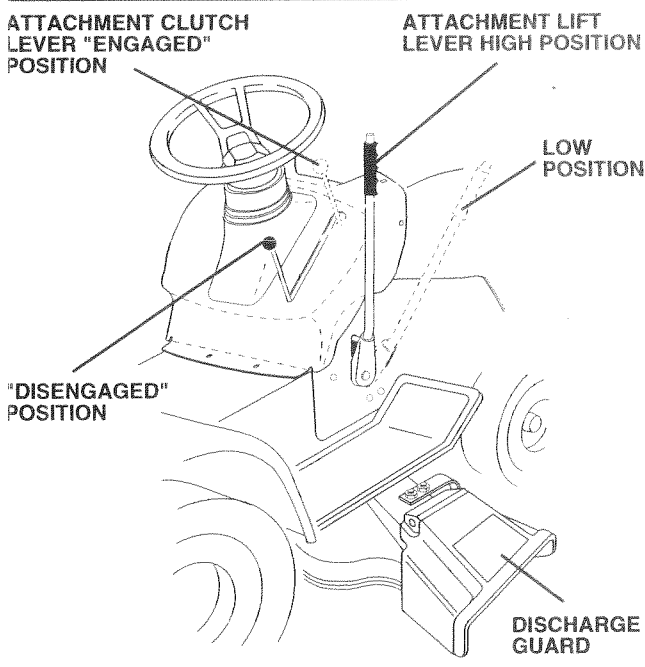

FIG. 7
HOW TO OPERATE MOWER (See Fig. 7)
- Use the runner on the right hand side of mower as a guide. The blade cuts approximately an inch outside the runner (See Fig. 7).